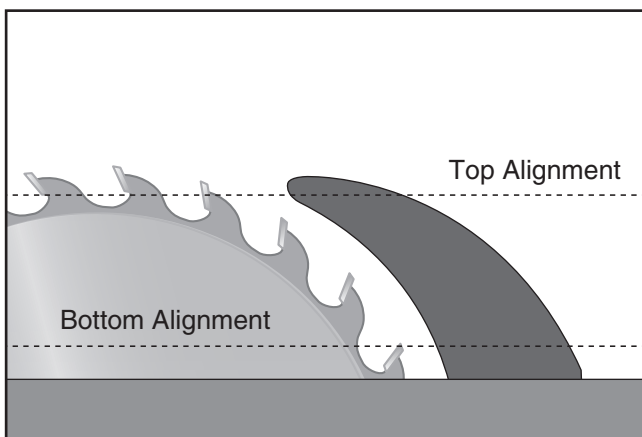
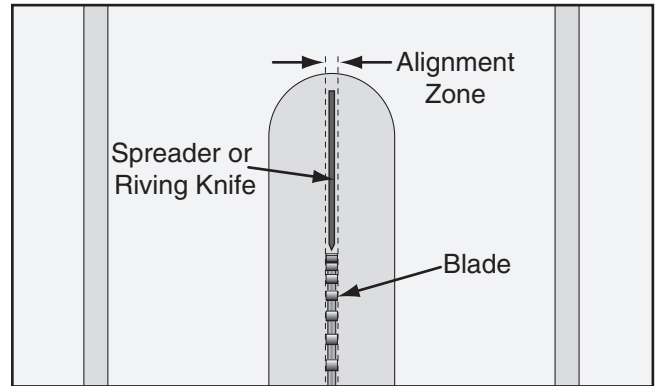

Figure 86. Checking top and bottom riving knife parallelism with blade.
Figure 87. Spreader/riving knife alignment zone.
3. Place straightedge against side of blade and spreader/riving knife at top and bottom, as shown in **Figure 86**. Spreader/riving knife should be parallel with blade along its length at both positions, and in "Alignment Zone," as shown in **Figure 87**.
2. Bend spreader or riving knife by hand while installed, then follow **Steps 1–3** in **Checking Alignment** on **Page 53** to determine if it is parallel with blade and inside "Alignment Zone" (refer to **Figure 87** in **Checking Alignment** on **Page 53**).